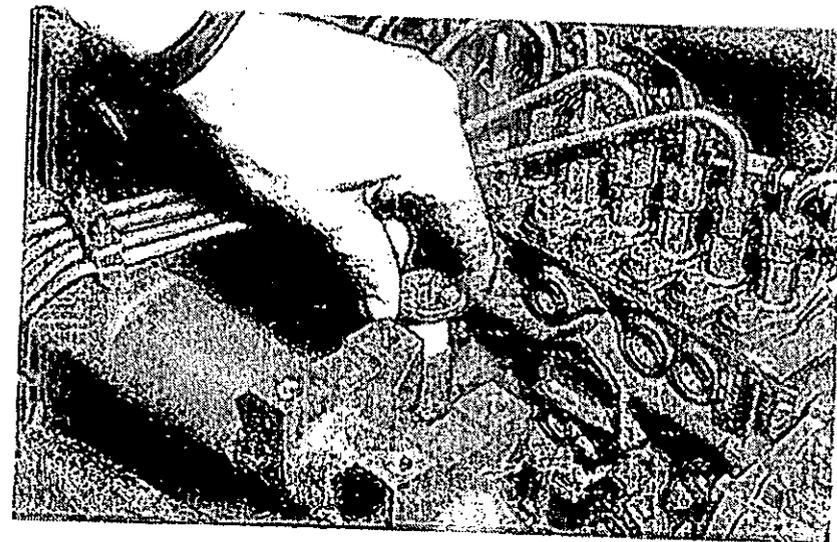

Fig. 25 Fuel lift pump priming plunger
- 2 Release the priming pump plunger from the fuel lift pump on the side of the fuel injection pump (see fig. 25). Operate the plunger until fuel, free from air, comes from the filter vent points. Tighten the filter vent screws.